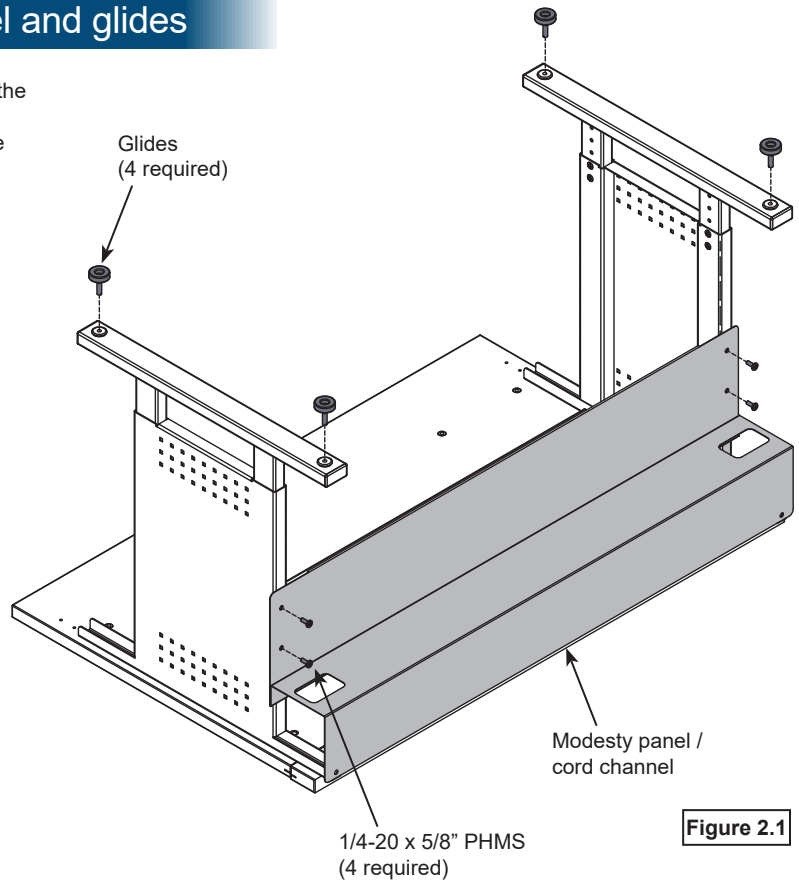

Figure 2.1
1. Orient the modesty panel/cord channel as shown and attach to the legs with (4) 1/4-20 x 5/8" PHM screws. **Figure 2.1.**
2. Install the (4) glides to the bottom of the legs. The glides can be adjusted later to keep the desk level on uneven surfaces.